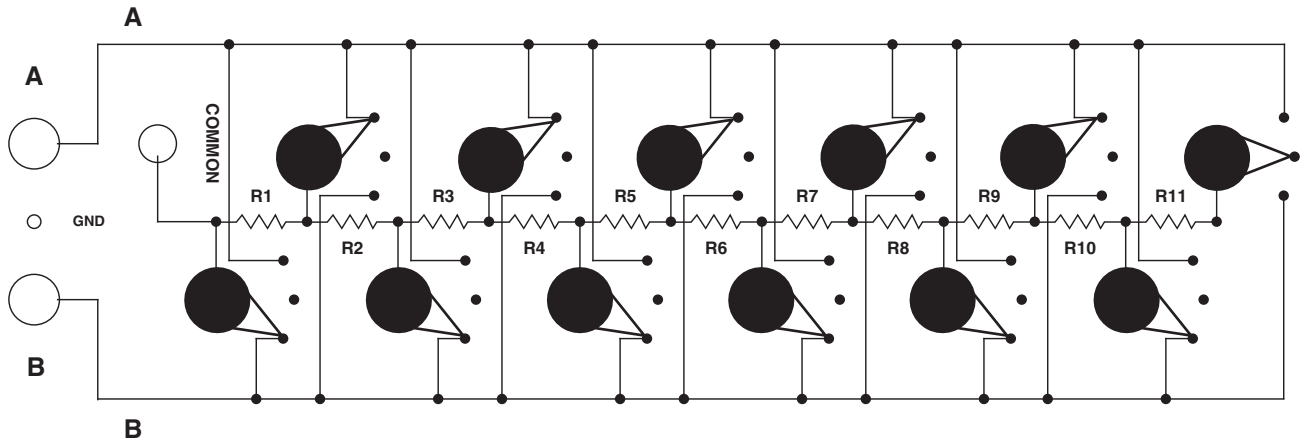

Figure 4-7: Resistance = $R/10$: ten resistors in parallel
- For a composite value of $R/10$, see Figure 4-7.
For example, a 100 k Ω standard may be compared with a SR-1050 unit with 1 M Ω steps connected in parallel as shown in Figure 4-7 above, to provide a 100 k Ω resistance. Once a comparison is made, a net deviation of the parallel R/10 combination is obtained.